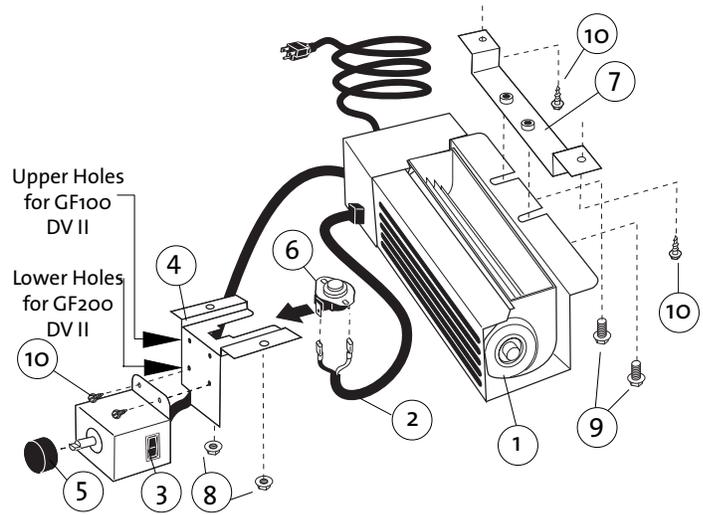

Figure 35. Blower Kit Components
1. **Unpack and check the contents** of the blower kit. Contact your dealer if any damage is evident or parts are missing. See fig. 35.
2. **Attach the Control Box to the Snapstat Bracket** using two #8 x 1/2" sheet metal screws. As shown in fig. 35, use the pair of mounting holes appropriate for your stove.
**GF 100 DV II:** First install the Mounting Bracket to the holes in the bottom of the rear shroud using two #8 x 1/2" sheet metal screws. Then attach the Blower to the Mounting Bracket using the two M6 flange head hex bolts as shown in fig. 35 and 37.
5. Attach either Snapstat wire connector to either Snapstat terminal. See figs. 35 and 37.